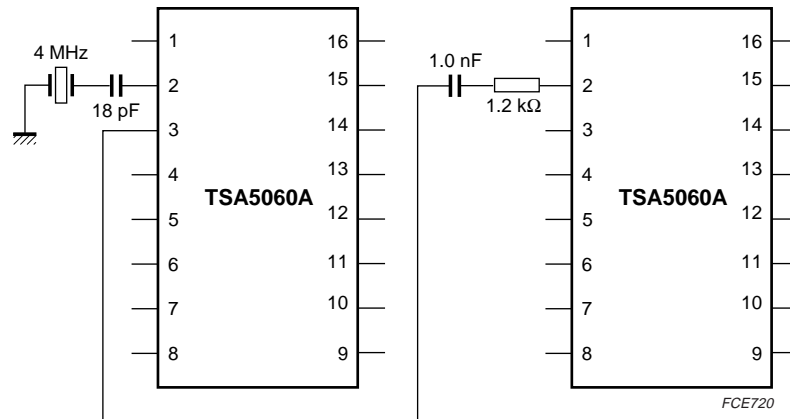

Fig.5 Application for using one crystal with two TSA5060As.
- To drive pin XTAL from the pin XT/COMP of another TSA5060A, couple the signal through a capacitor of 1 nF (to remove the DC level) in series with an 1.2 kΩ resistor; see Fig.5.
It is also possible to feed pin XTAL with an external signal between 2 and 20 MHz, coming from an external oscillator or from the pin XT/COMP of another TSA5060A, when more than one synthesizer is present in the same application. The application given in Fig.5 should then be used.